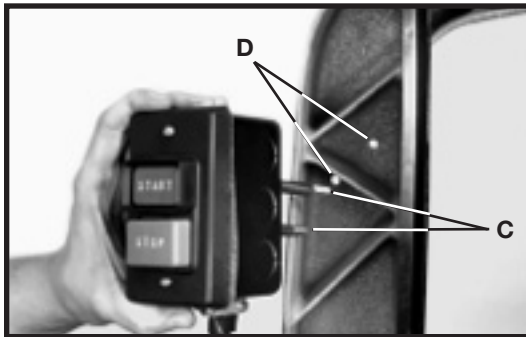

Fig. 13
2. Insert two screws (C) Fig. 13, located on back of switch box, into two holes (D) located in the band saw arm.